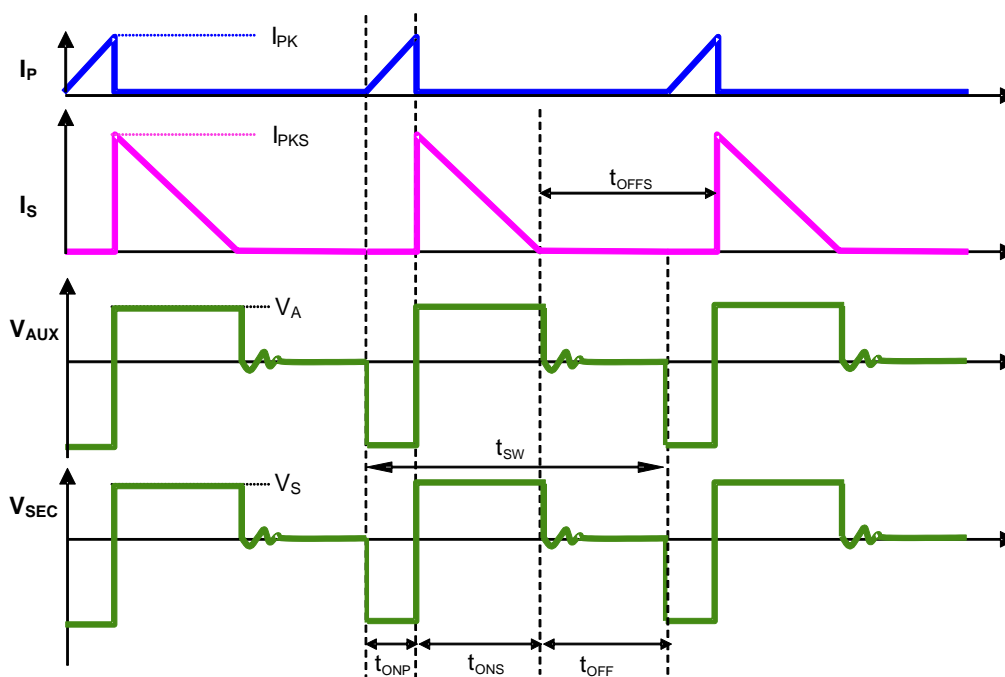

Figure 2. The Operation Waveform of Flyback PSR System
Figure 2 shows the typical waveforms which demonstrate the basic operating principle of AP3783R application. And the parameters are defined as following.
As illustrated in Figure 2, when the current **ip(t)** rises up to **IPK**, the switch Q1 turns off. The constant peak current is given by:
The AP3783R can work in constant-current (CC) mode. Figure 2 shows the secondary current waveforms.